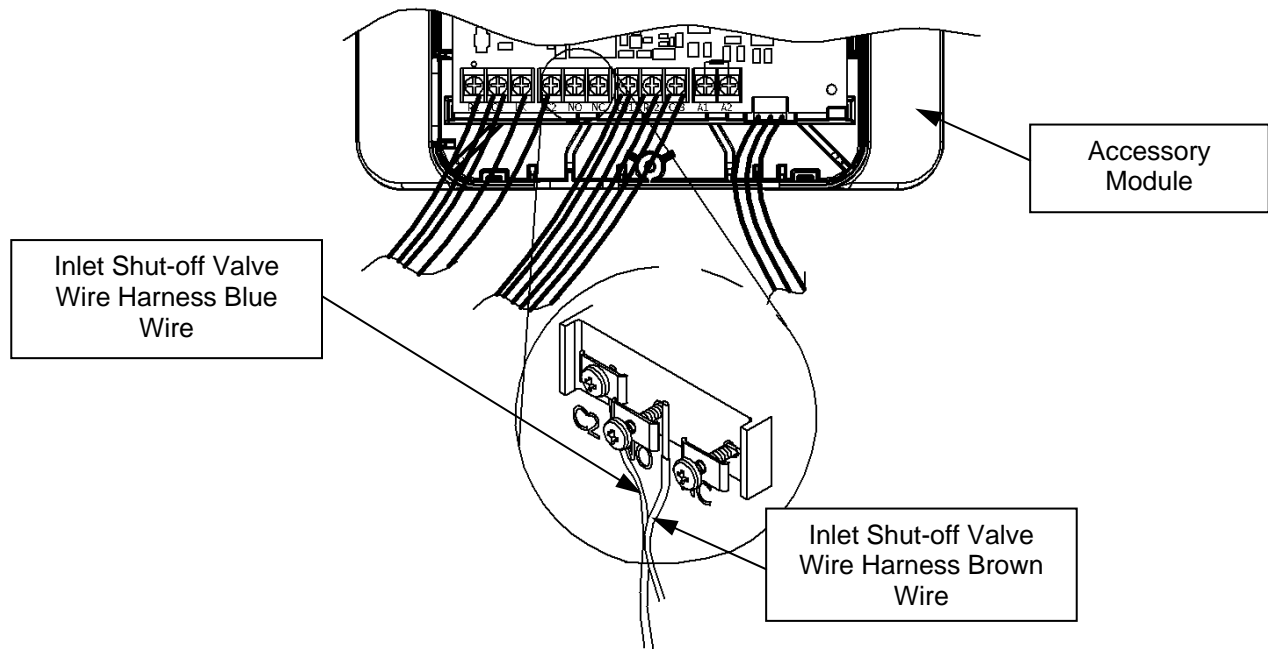

Figure 78
Step 11: Insert the brown wire, from the Inlet Shut-off Valve wire harness, under the screw labeled "NO," as shown in Figure 78.